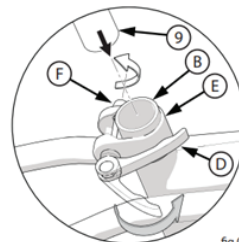

fig 08
3. Open and close the Quick Release Lever with one hand while you turn the Adjusting Nut (F) with the other hand (fig 08). Tighten or loosen the Adjusting Nut (F) by hand, so that you first feel resistance to the quick release lever when it perpendicular to the bicycle frame.
4. Push the Quick Release Lever to the “close” position (fig 08). The tightening torque of the Quick Release Lever should be tight enough so that the seat does not move during normal operation.